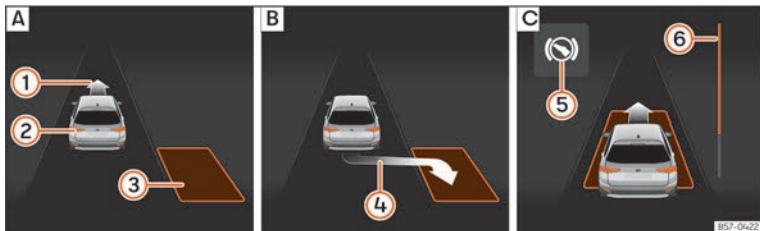
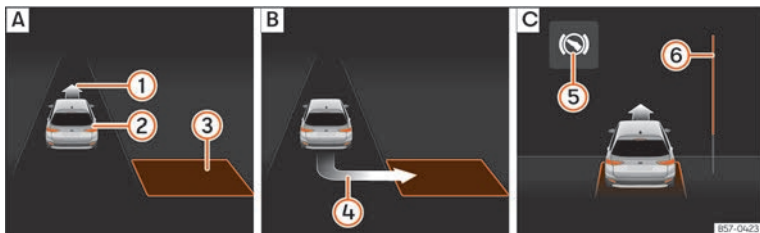

Fig. 187 On the instrument panel display: parallel parking. **[A]** Finding a parking space. **[B]** Parking position. **[C]** Manoeuvring.
Fig. 188 On the instrument panel display: angle parking. **[A]** Finding a parking space. **[B]** Parking position. **[C]** Manoeuvring.
- Look at the display on the instrument panel to see if the space has been detected as “appropriate” and if the correct position for parking has been reached >>> **Fig. 187 [B]** or >>> **Fig. 188 [B]**. The space is considered
- Reverse until the continuous ParkPilot signal sounds; **OR:** reverse until the indication to move forward appears on the instrument panel display »» Fig. 187 [C] or »» Fig. 188 [C]; **OR:** reverse until the **Park Assist finished** message appears on the instrument panel display. The progress bar [6] indicates the distance to cover »» page 272.
- Move forward until the continuous ParkPilot signal sounds; **OR:** move forward until the reverse indication appears on the instrument panel display. The Park Assist system steers the vehicle forward and back until it centres it in the space »» Fig. 187 [C] or »» Fig. 188 [C].
»» Fig. 187 [6] and »» Fig. 188 [6] on the screen of the instrument panel displays the relative distance to be covered. The greater the distance, the fuller the progress bar. When driving forward, the content of the progress bar decreases upwards, and when reversing, it decreases downwards.